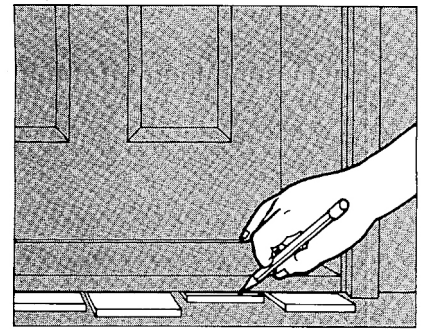

Figure 7E-1
7. Use a pencil to draw a line across all the shims at the edge of the metal threshold to mark how far inside they went (Figure 7E-1).